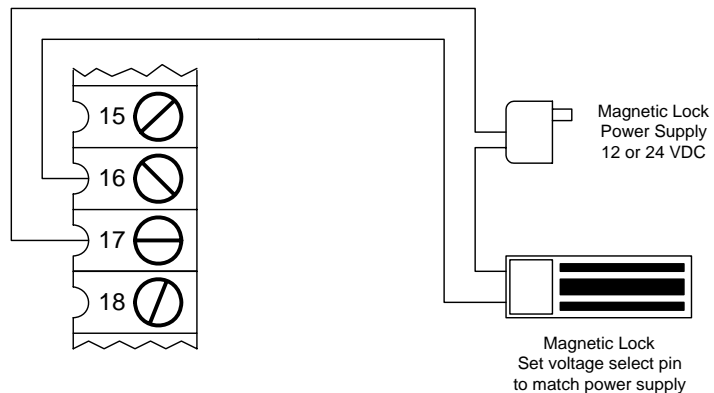

Figure 30
- Connect the magnetic lock as shown in Figure 30.